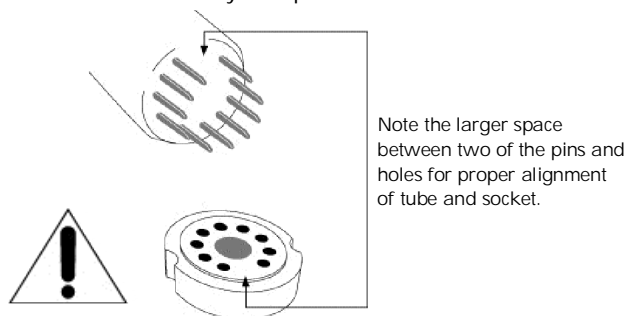

Figure 2 - Tube pin alignment with the socket.
4. Take the tube and inspect the pins, noting the larger space between two of the pins. This space will align with the same larger space between two of the pin holes on the socket. Insert the tube into the tube socket, making sure all pins and pin holes are aligned (see Figure 2). Do not force the tube into the socket. "Rock" the tube gently while pushing slowly until the tube is firmly seated.